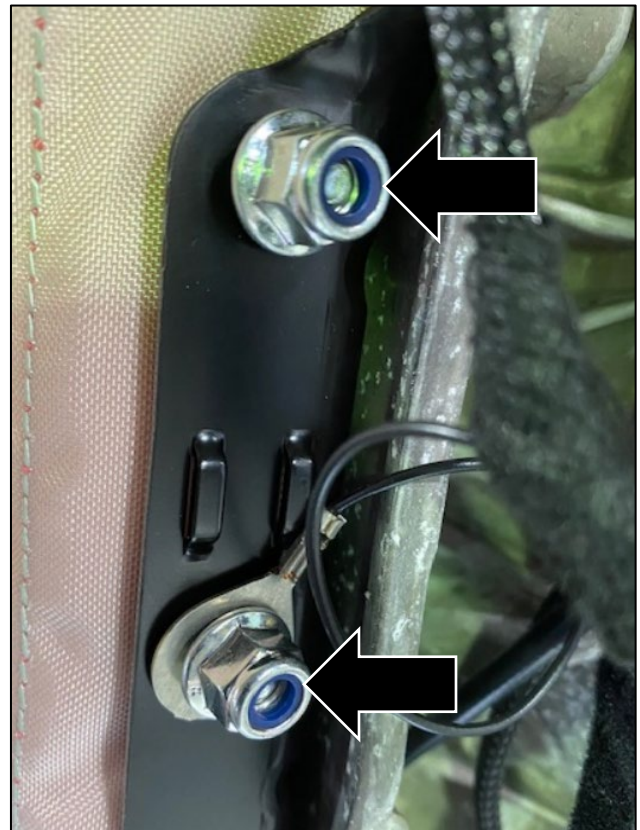

Figure 4
4. This image shows two locking nuts that are incorrectly installed (refer to Figure 4).